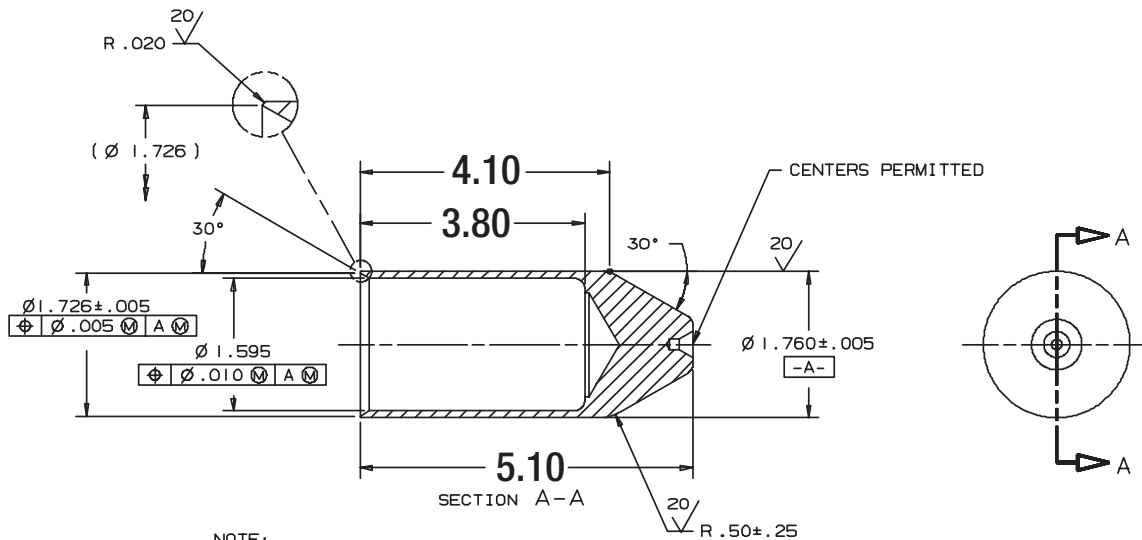

figure 9
**110** Press the new greased shaft seal over a shaft bullet, see figure 9 and page 3 for correct bullet. Closed face of the shaft seal is to face the closed end of the bullet.